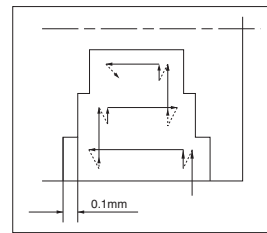

Fig.3
1) When widening the groove width (Refer to Fig.3), apply the "Step Turning."